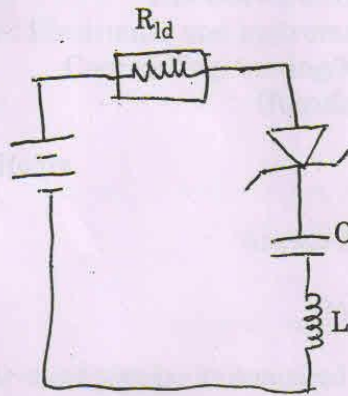

Fig. 16. b
b) The series resonance turn-off circuit of Fig. 16 b has the following data :